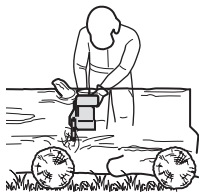

Fig. 20
2. Always hold the product firmly with both hands; front handle (3) with the left hand and rear handle (1) with the right hand. Fully grip both handles at all times during operation. Never operate the product using only one hand.
3. Only use the product with a secure stance. Hold the product at the right-hand side of your body (Fig. 20).